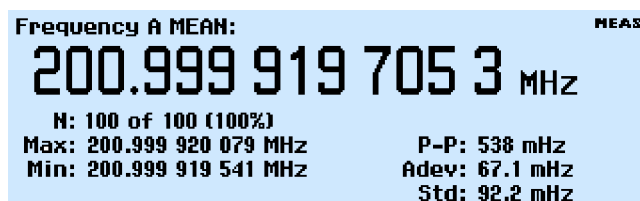

Figure 1: Numerical Analysis display
- i. Push the **Analyze** button as many times as needed, until you see the Numerical Analysis display. (See Figure 1.)